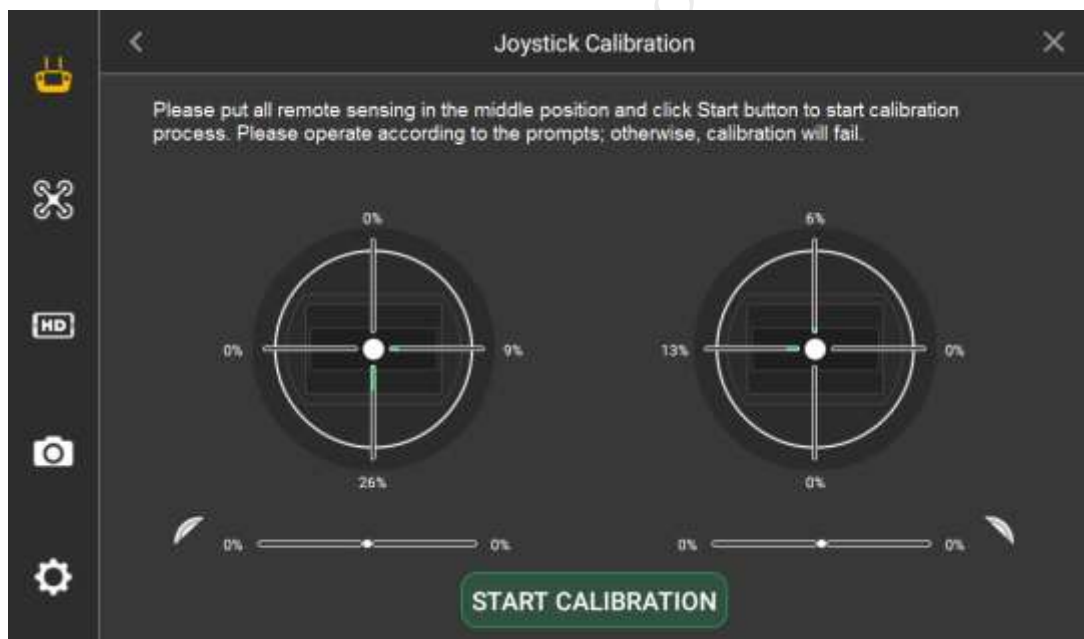

Figure 3-29
Step 1 Select "Settings > Remote Control Settings> Remote Calibration" to enter the remote calibration interface, as shown in Figure 3-29.